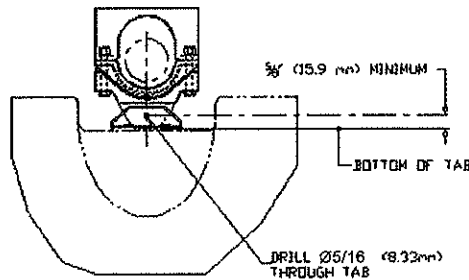

Figure 1-5, Aft Attachment fitting Installation
- e. Lift the aft end of the Spray tank so that the angles mounted to the top of the tank align around the tabs on the brackets installed on the cross tube supports. (Fig. 1-5)